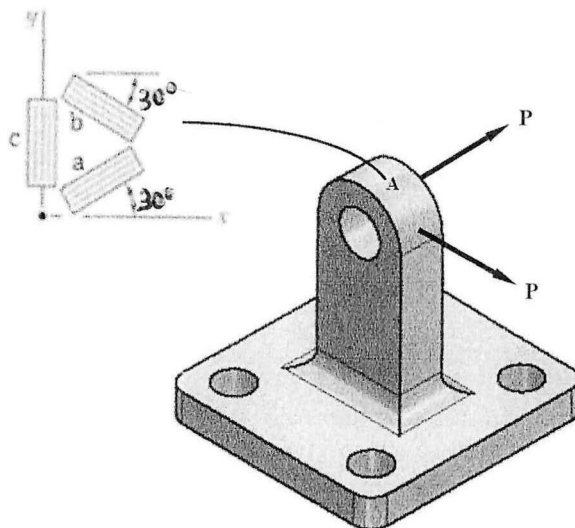

Figure Q1
- Q1** The steel bracket with  $E_{\text{steel}} = 200\text{GPa}$  and  $\nu_{\text{steel}} = 0.3$  in **Figure Q1** is subjected to external loadings. Due to the given loadings, the readings from the gauges at point A (on the surface of the bracket) shows: